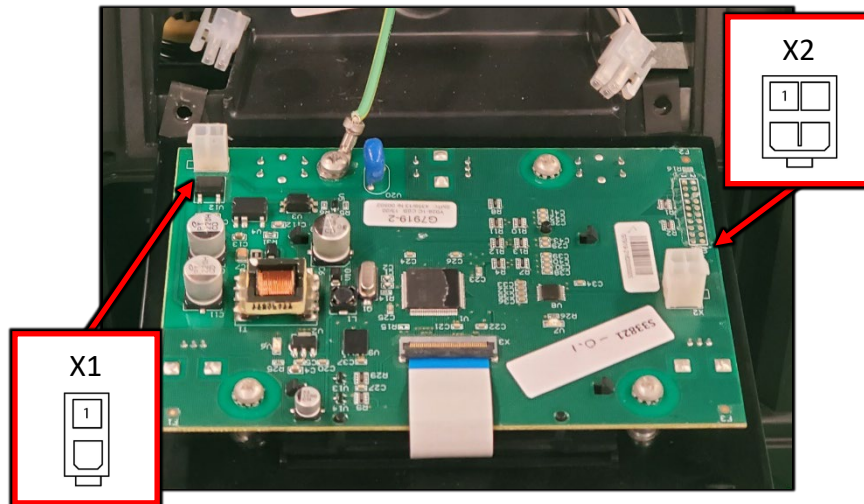

Figure F.2
A.2. Perform the measurements identified in Test Table 1 below, refer to Figure F.2 for test point locations. NOTE: CONNECTORS X1 AND X2 REMOVED FOR PHOTO REFERENCE ONLY.